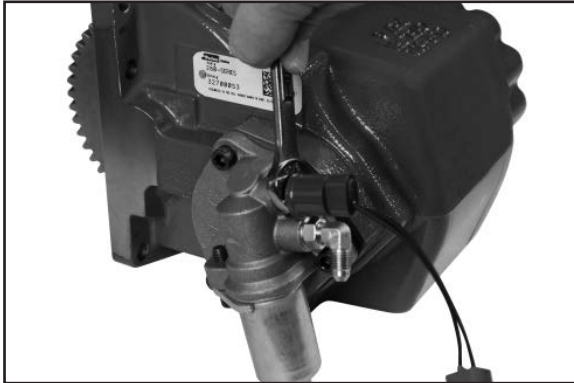

Figure 12
1. Install PTO pressure switch, part #379502, into port on Hydraulic Valve Cap. Torque between 120-140 lb-in [14-16 N-m] (**Fig. 12**).